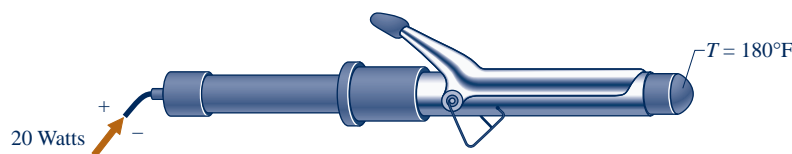

Fig. P6.55
6.55 At steady state, the 20-W curling iron shown in Fig. P6.55 has an outer surface temperature of 180°F . For the curling iron, determine the rate of heat transfer, in Btu/h, and the rate of entropy production, in Btu/h \cdot $^\circ\text{R}$.